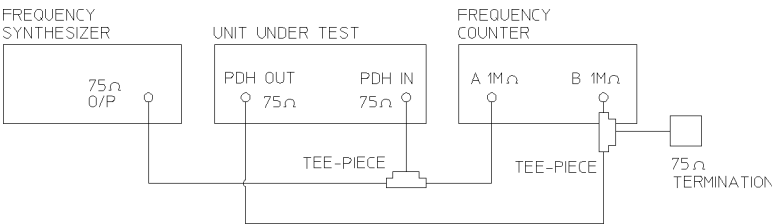

Figure 3-33 Receiver Frequency Measurement Test Setup
2. Connect up the equipment as shown in Figure 3-33.